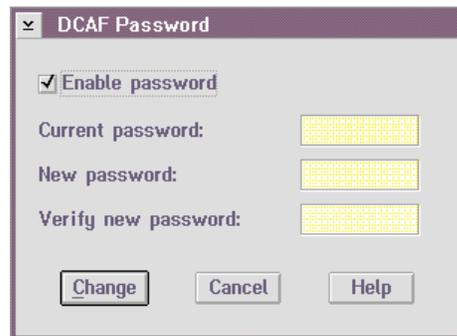

Figure 175. DCAF Password
3. In the DCAF Password window (Figure 175), click the **Enable password** check box.